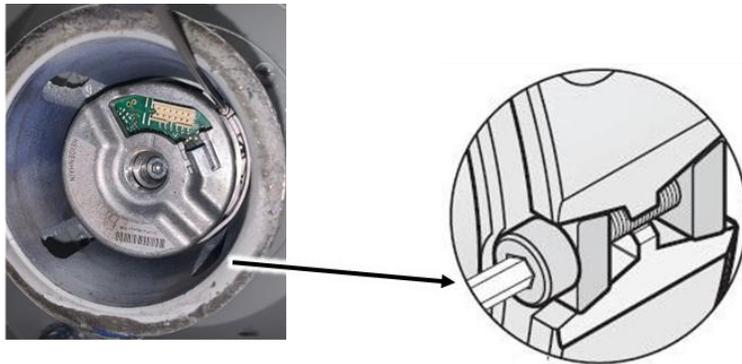

Figure 34
4. Rotate the encoder, it should be very flexible at this time, tighten the encoder locking screw according to 11 in-lbs. by a hex wrench so the encoder outer cannot rotate by hand. See Figure 34.